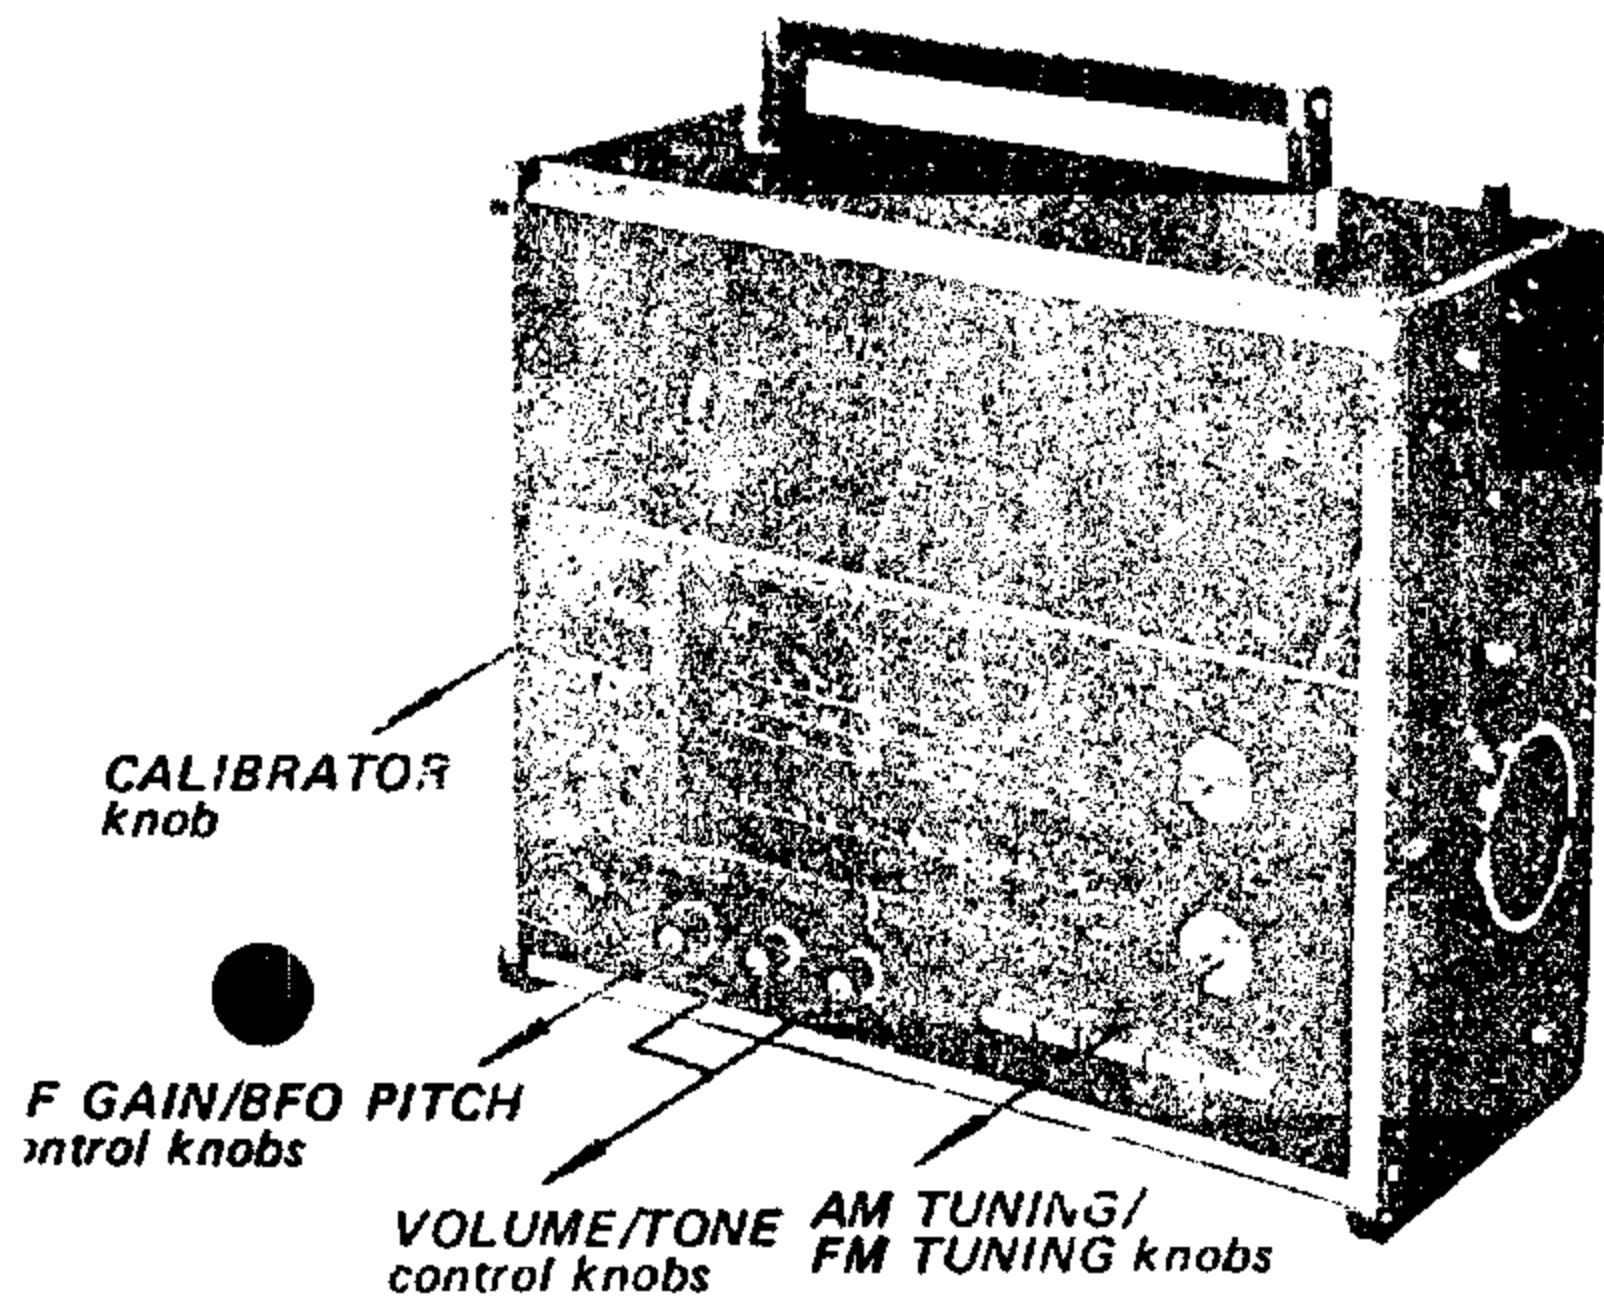

Fig. 2-1
1. Pull off the seven knobs shown in Fig. 2-1.